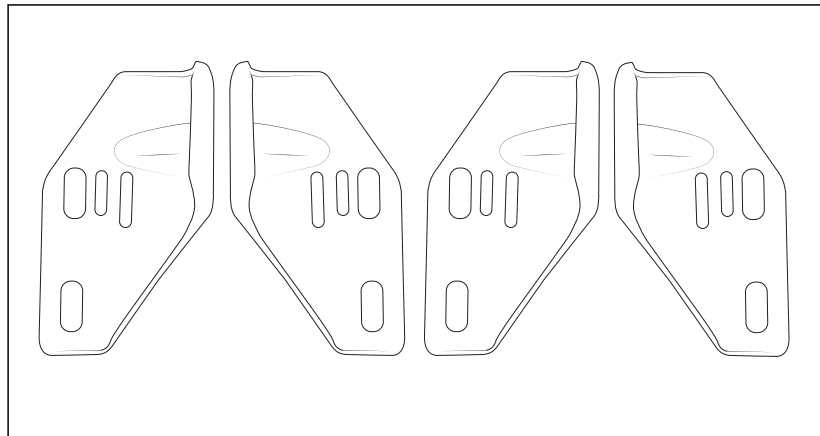

Figure 9
10. Retain the factory tow hook brackets if equipped (fig. 9)
18. Retain the factory tow hook brackets if equipped (see fig. 9)